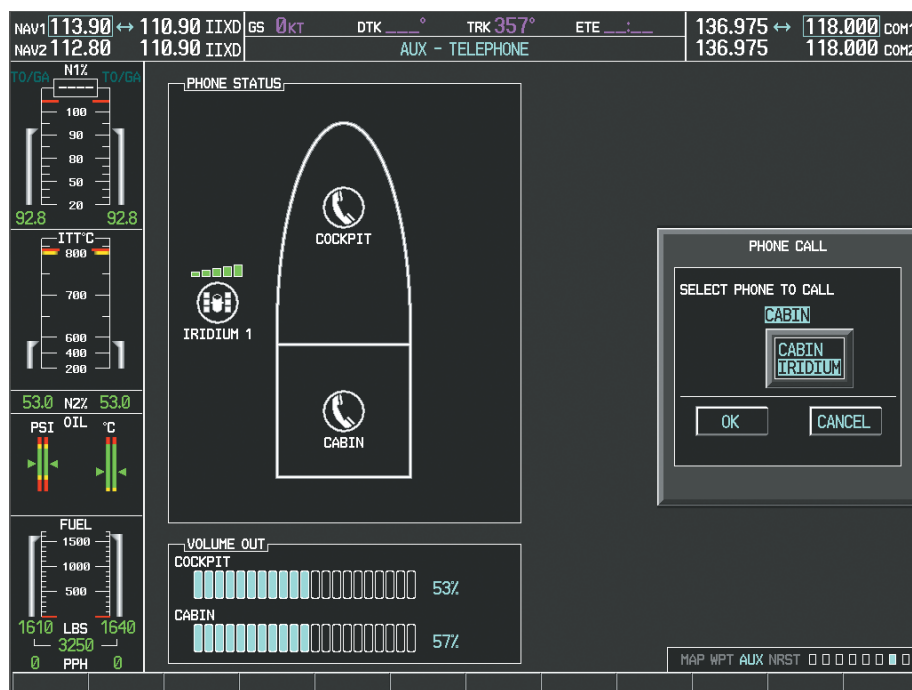

Figure 8-82 Selecting the Iridium Satellite System
- 3) Turn the small **FMS** Knob to select 'IRIDIUM' as seen in Figure 8-82.